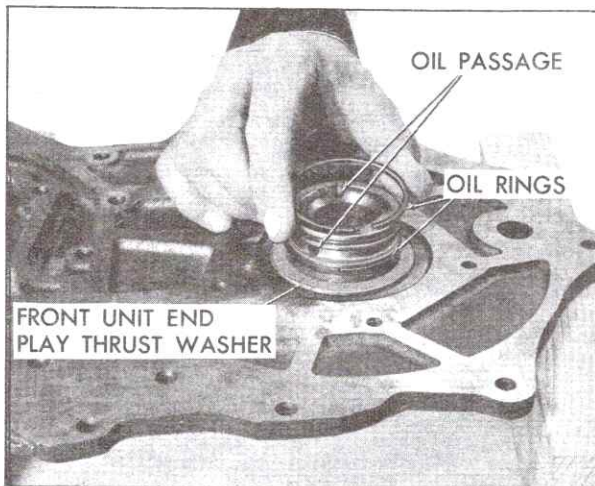

Fig. 7-157 Installing Oil Rings on Driven Sprocket Support
7. Install two hook type oil seal rings into the grooves in the hub of the driven sprocket support housing, Fig. 7-157.